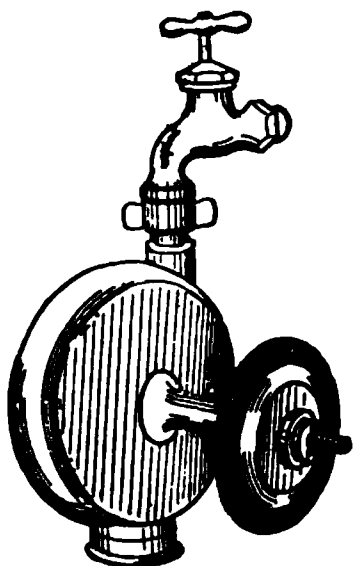

FIG. 73. — Water motor.
78. Water motors. In cities where water is supplied under considerable pressure, it may be used to run sewing machines; small polishers, grinders, lathes, etc., by means of a water motor. A simple form is shown in figure 73. The stream of water is made to pass through a small opening at high velocity and to strike against some blades or buckets on the rim of a wheel. The wheel is inclosed in a metal case, from which the water flows away to the drain-pipe. The impact of the water against the blades turns the shaft, to which the machines to be driven are connected either directly or by belts.